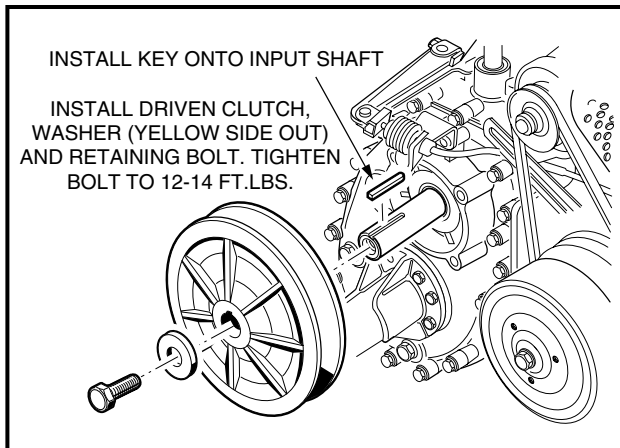

FIGURE 10-90
8. Install the key onto the input shaft (**Figure 10-90, Page 68**).
9. Position the driven clutch on the transaxle and install the washer (yellow side facing out) and mounting bolt (**Figure 10-90**). Use a 1/2" wrench to tighten the mounting bolt to 12-14 ft.lbs. (16.3/19 N-m).